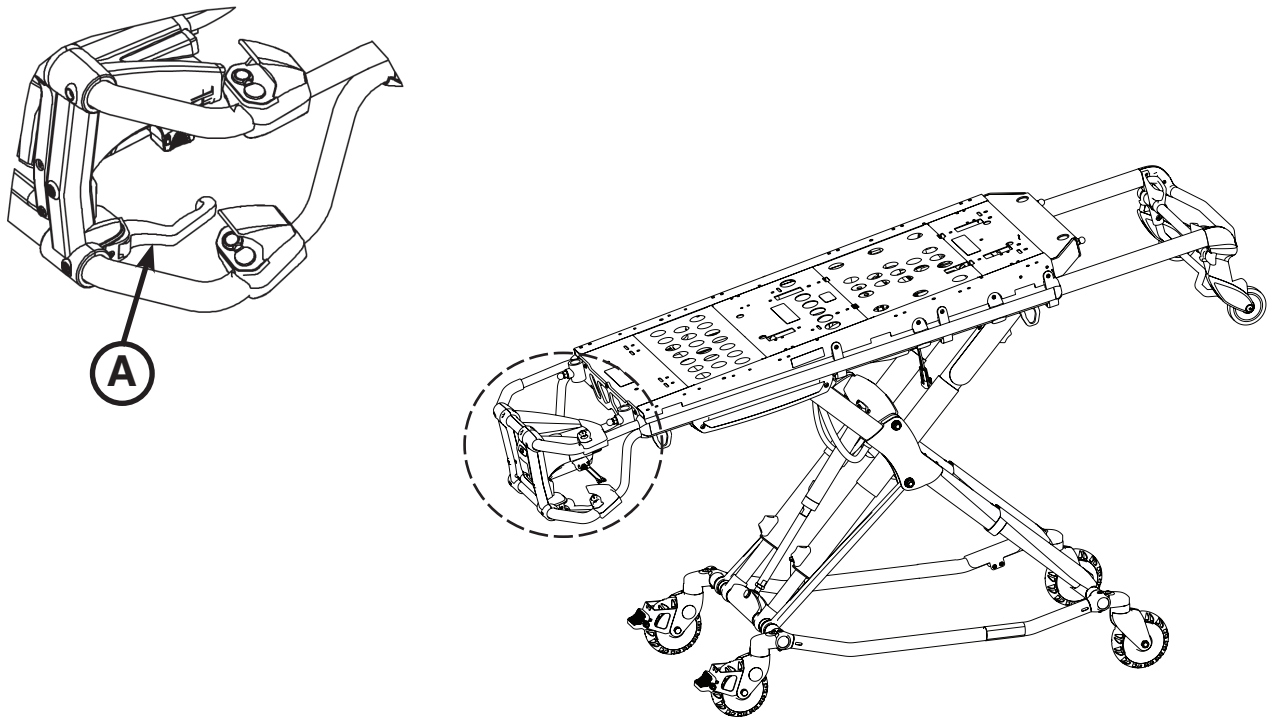

Figure 18: Manual Back-Up Release Handle
The **red** manual back-up release handle (A) is located along the patient left side of the lower lift bar at the foot end of the cot as shown in Figure 18.